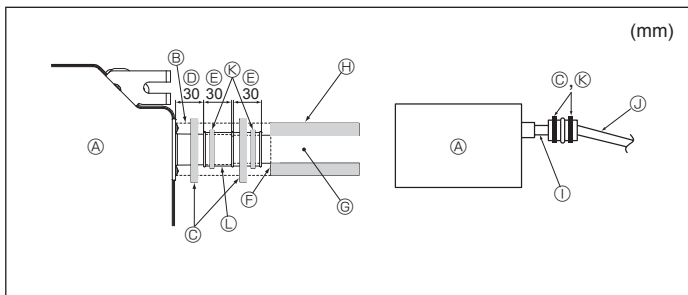

Fig. 3-5
- ① O.D. ø38 PVC TUBE for grouped piping. (9 mm or more insulation)
1. Connect the drain socket (supplied with the unit) to the drain port. (Fig. 3-5) (Affix the tube using PVC adhesive then secure it with a band.)